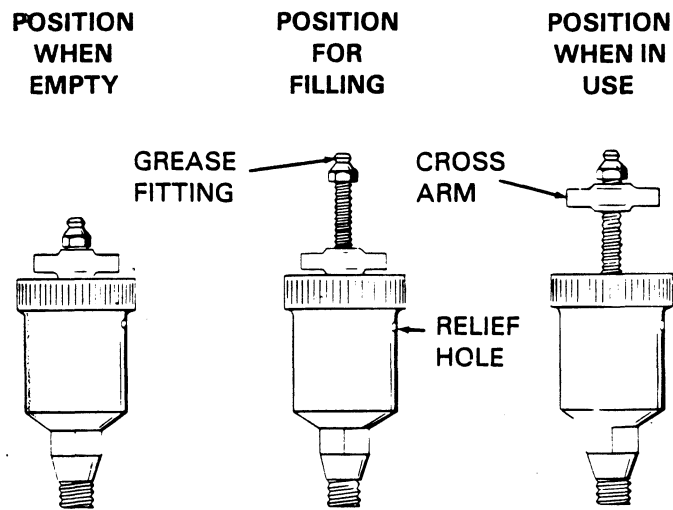

Figure 4. Automatic Lubricating Grease Cup
Before removing the impeller, turn the cross arm on the automatic lubricating grease cup (16) clockwise until it rests against the cover (see Figure 4). This will prevent the grease from escaping when the impeller is removed.
Fill the grease cup (16) through the grease fitting with No. 2 lithium base grease until grease escapes from the relief hole. Turn the grease cup arm counterclockwise until it is at the top of the stem; this will release the spring to apply grease to the seal (see Figure 4).